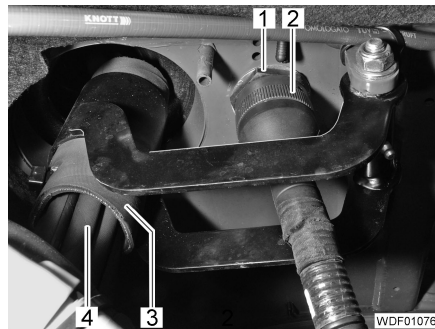

Fig. 400 Underside of the cab
- Carefully insert the hydraulic lines (Fig. 400,4) of the control hydraulic into the hose (Fig. 400,3).
- Insert the plug (Fig. 400,2).